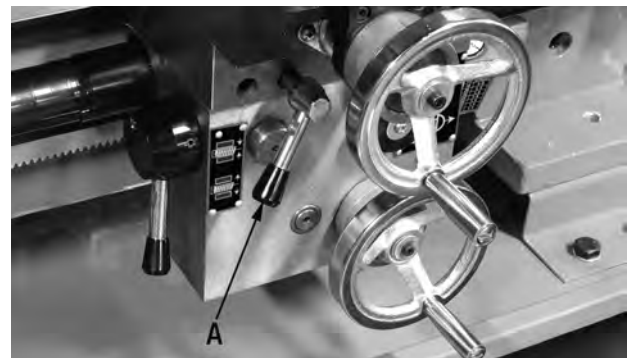

FIGURE 16
1. The carriage lock lever (A) Fig.16 is located as shown in Fig.16. This allows the carriage to be locked for precision facing operations while using the lathe or to make a milling operation more rigid.